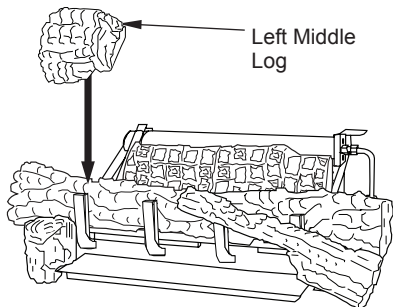

Figure 30 - Installing Left Middle Log
6. The left middle log (18" D-066, 24" & 30" D-040) has a groove on the bottom to sit on the chassis and has to sit on the tab on the back of the left front log as shown in **Figure 30**.